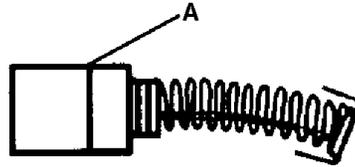

FIGURE 9
Eventually, carbon brushes wear down and no longer make sufficient contact with the armature, when this happens, both carbon brushes need replacing. Replace when they wear down to the limit mark (A) Fig.9. Keep the carbon brushes clean and free to slip in the holders. Both carbon brushes should be replaced at the same time. Use only identical carbon brushes.